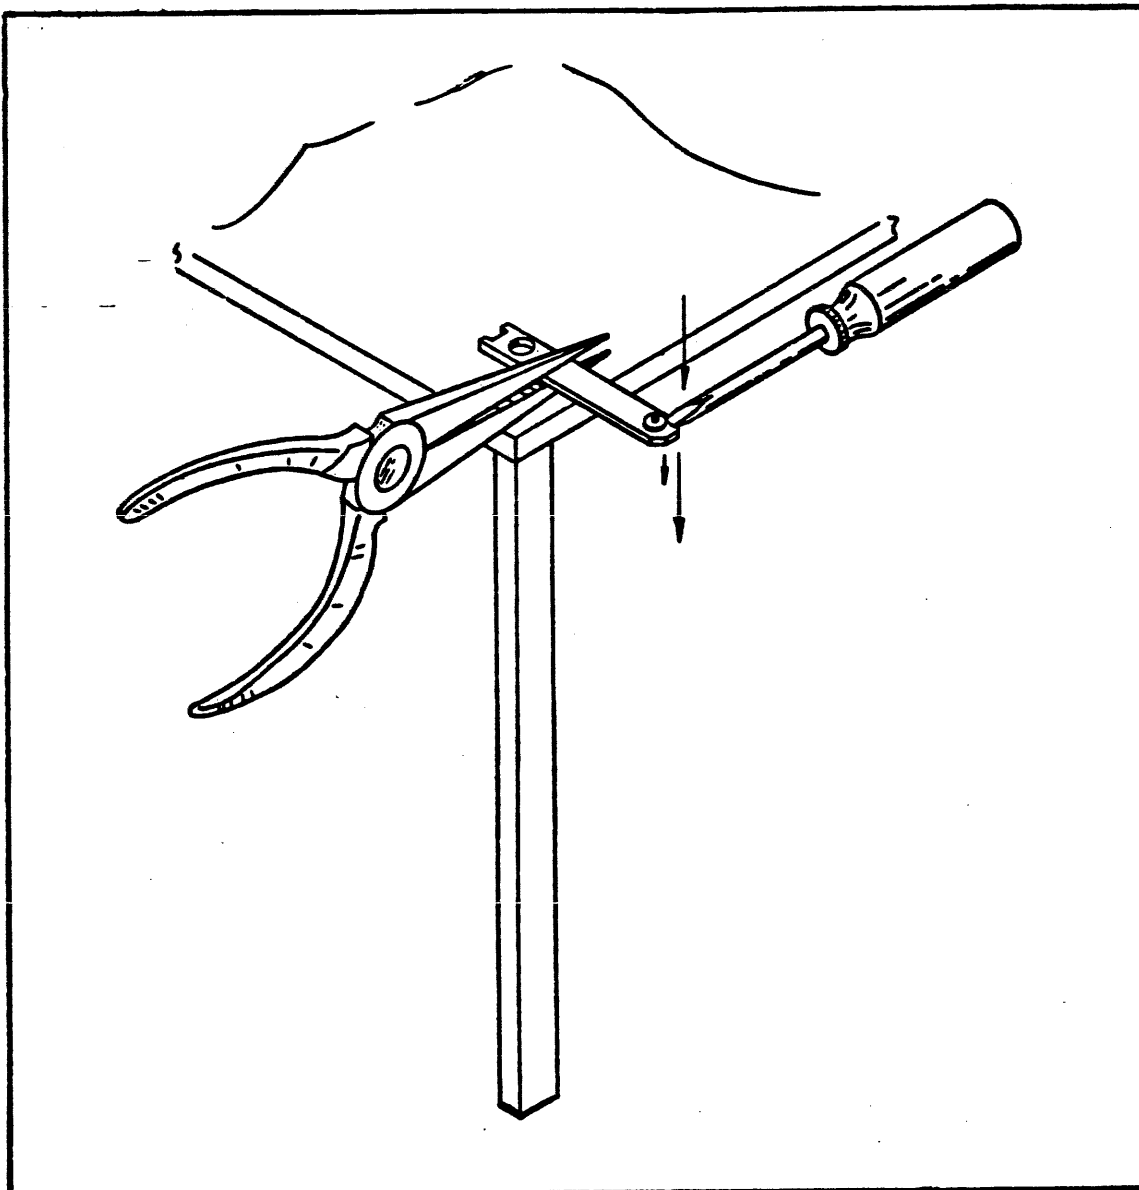

Figure 91 Tweaking the Hammer Spring
2. Grip the spring in a pair of longnose pliers so that the screw hole is just covered and tweak the spring in the direction opposite the hammer tip (**Figure 91**).
- 2. Grip the spring in a pair of longnose pliers so that the screw hole is just covered and tweak the spring in the direction opposite the hammer tip (**Figure 91**).